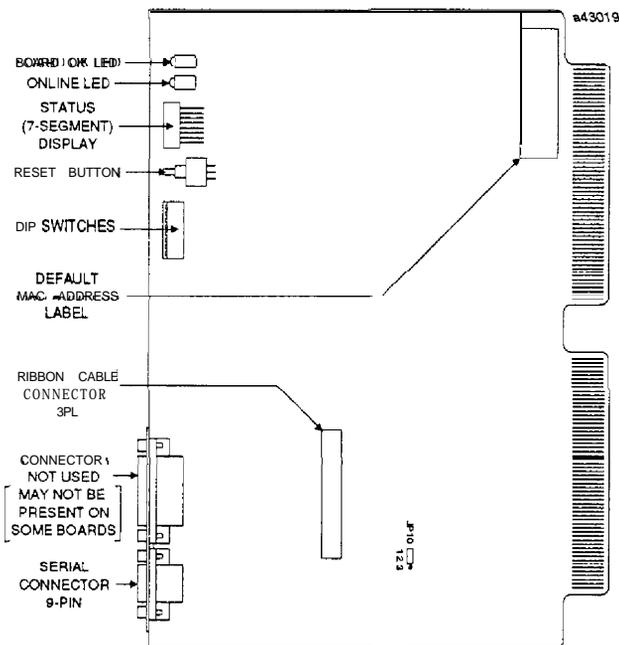

Figure 2. Controller Board
The digital controller (see Figure 2) connects the LAN Interface to the backplane of the Series Six PLC, allowing data to flow to and from the PLC. It contains RAM storage for LAN communication software which is downloaded to the board using GENet System Manager (GSM) software.
3. Examine JP10 on controller board (see Figure 2.) and insure that the jumper connects pins 1 and 2.